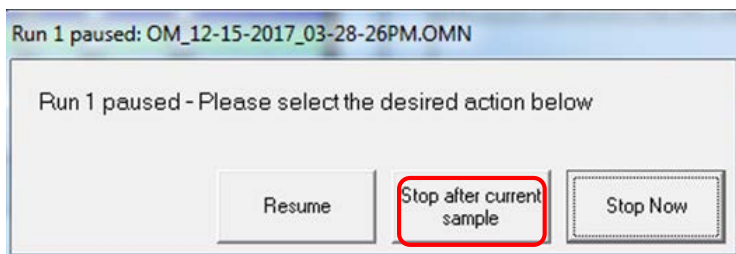

Fig.11 Pause
4.6.7 Click on  (better choose stop after current sample) if tray needs to be paused (fig. 11).